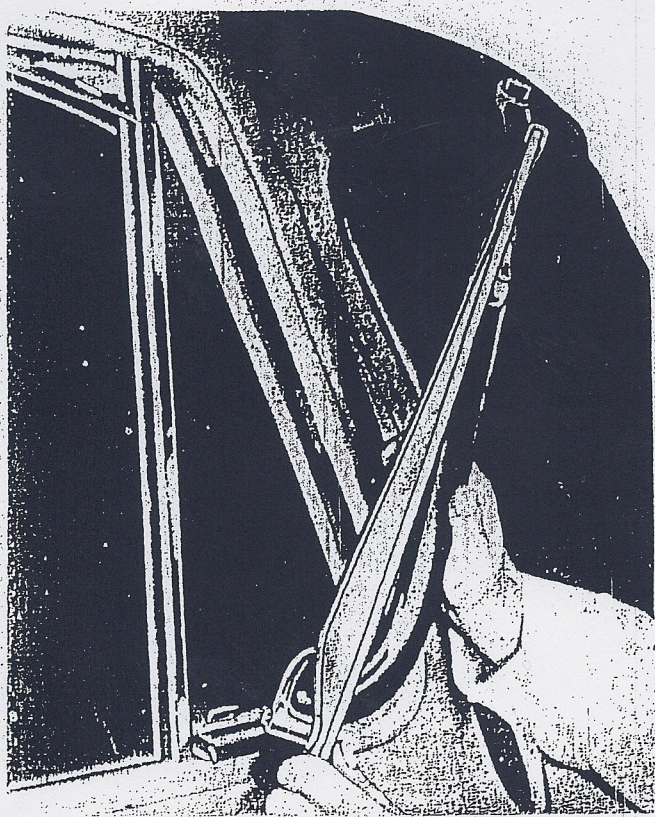

Fig. 31—Ventilator Assembly Removal
(4) **VENTILATOR ASSEMBLY REPLACEMENT.** Remove the ventilator retaining screws (fig. 30). It is not necessary to remove the weatherstrip from the channel to remove the retaining screws. Remove the division bar retaining screws to obtain adequate clearance for the removal of the ventilator assembly. Move the ventilator toward the lock side of the door, then pull the upper part of the ventilator frame out at the top. Raise the assembly out of the door (fig. 31).